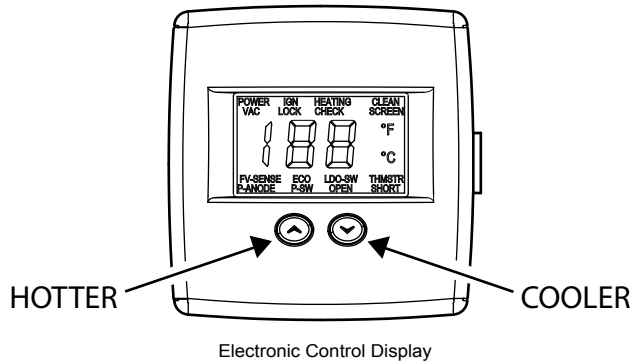

FIGURE 21.
1. "Wake Up" the temperature indicators by holding down both "COOLER" and "HOTTER" temperature adjustment buttons at the same time for one second (See Figure 21). The display will light up. The display will only remain on for 30 seconds if no further buttons are pressed. After 30 seconds the control will go back to "Sleep" mode.